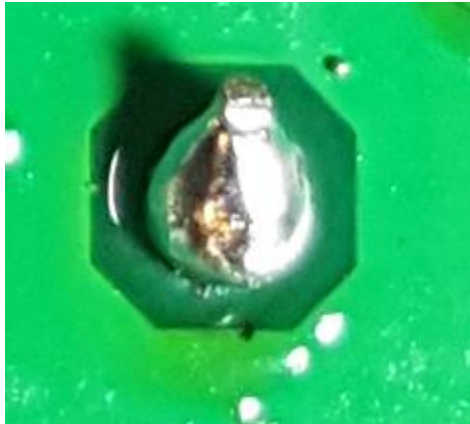

Figure 18 Solder ball shape example
- 3.3.4.2. A good solder should be shiny in appearance and have a “volcano” Shape (Figure 18)